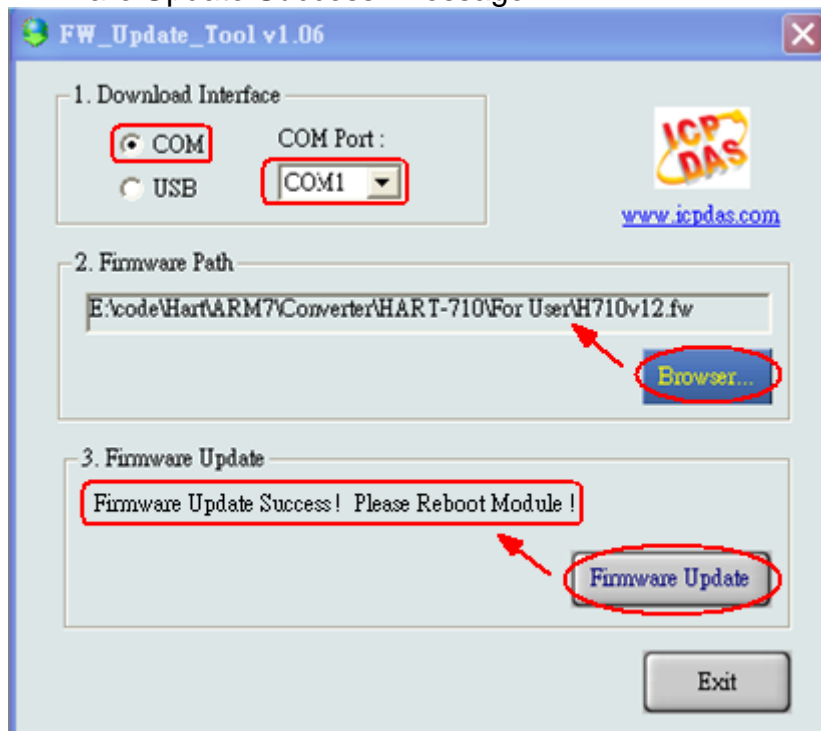

Figure 4-3 “FW\_Update\_Tool”
- (4) Run “FW\_Update\_Tool” like Figure 4-3 (Download from : [ftp://ftp.icpdas.com/pub/cd/fieldbus\\_cd/hart/gateway/utilities/fw\\_tool/](ftp://ftp.icpdas.com/pub/cd/fieldbus_cd/hart/gateway/utilities/fw_tool/) ).